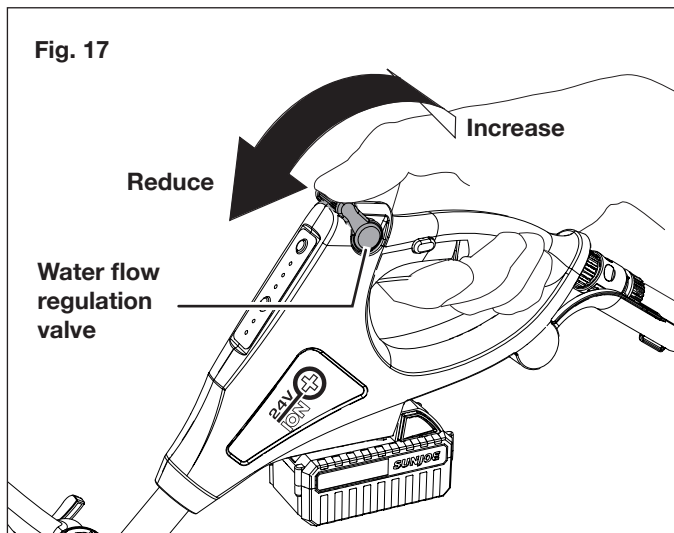

Fig. 17
6. Open the water flow regulation valve and set the water to a suitable flow for the task. Adjust the water flow during operation as needed. Push the valve forward to reduce the water flow, and pull the valve backward to increase the water flow (Fig. 17).